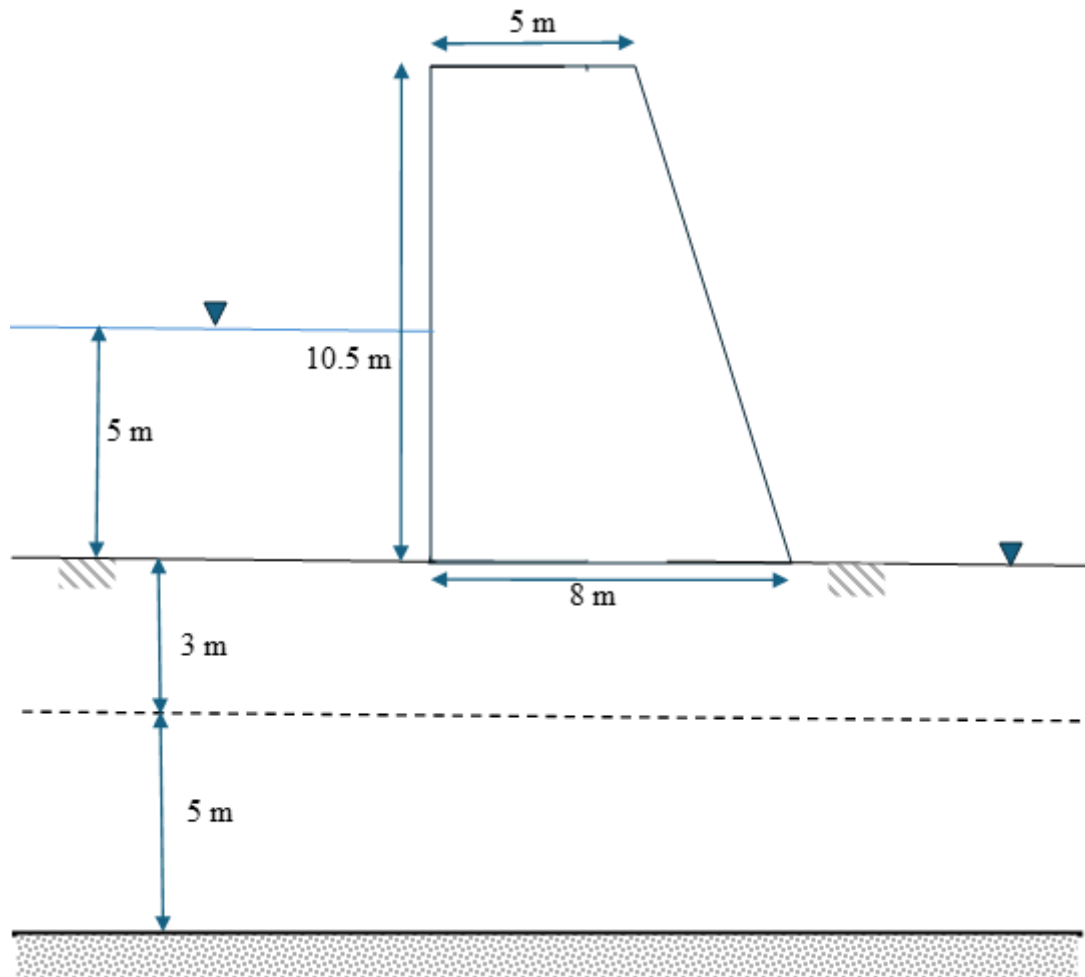

Fig. 1
- (d) A concrete gravity retaining wall has 5 m of water collected on one side as shown in Fig. 1 before any backfill soil is placed. The retaining wall was constructed on the soil deposit described in part (c). Construct an appropriate scaled drawing and sketch the seepage flownet on it for the seepage underneath the retaining wall. Estimate the leakage rate of water in the units of litres per day per metre length of the retaining wall. [25%]